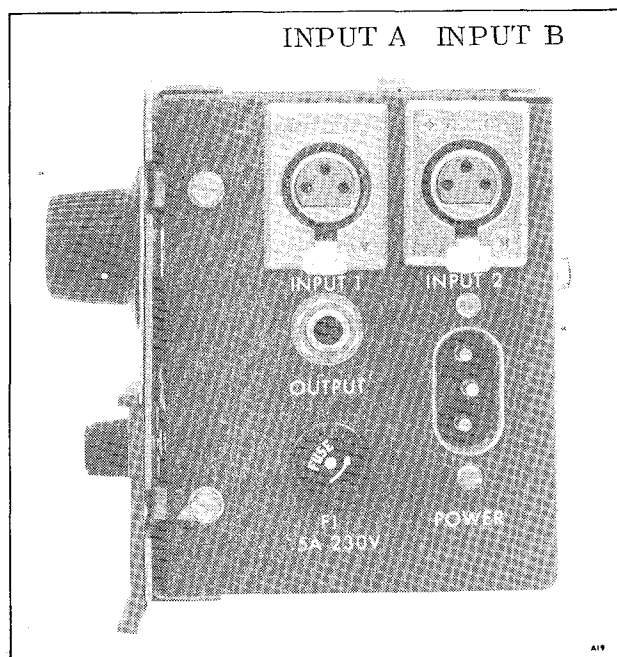

Figure 2-2. Master Electronic Assembly Connector Panel
2.9 Portable equipment is shipped with connections completed between the tape transport and electronic assembly, so it is necessary only to connect the input and output signal lines (paragraphs 2.15 and 2.19) and the power cable (paragraph 2.24). When equipment is disassembled for maintenance, all disconnected connectors must be reconnected. Connectors mentioned in the following procedures are shown in Figures 2-2 and 2-3.